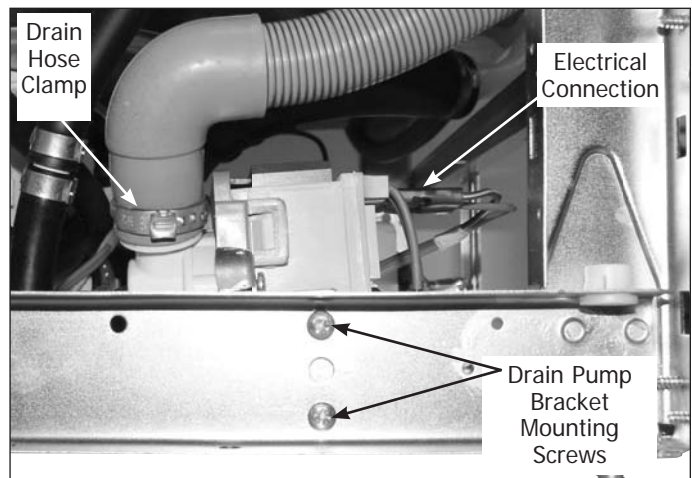

Figure 4-26. View From Lower Left Rear Corner
6. Extract the two screws mounting drain pump mounting bracket to side frame of unit. (See Figure 4-26)